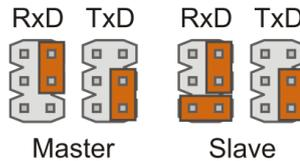

Fig. 12.21.
**Attention!** Hard drives of this family have a peculiarity pertaining to drive startup. Some drives block the terminal after initialization when connected as «Master». You will have to connect the drive as «Slave» to allow work via the terminal. Fig. 12.21 shows the scheme of jumper settings on the PC-2” adapter for Seagate Momentus drives.